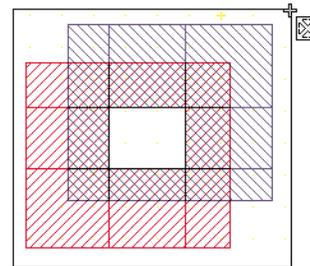

Figure 3. Merge the remaining pieces.
- 1.5. Select all objects cut by line, Figure3.